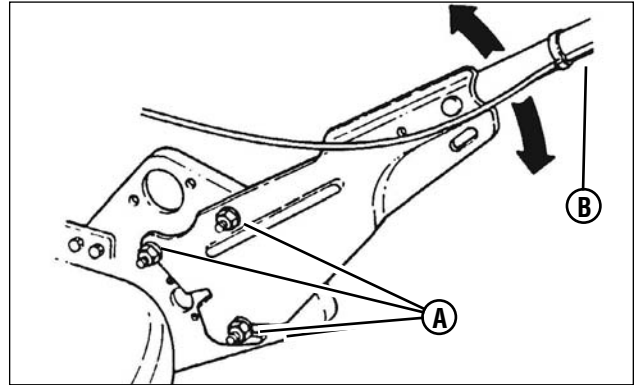

Figure 7: Adjusting the handle height
1. Loosen the lower nuts (A, Figure 7) on each lower handle.